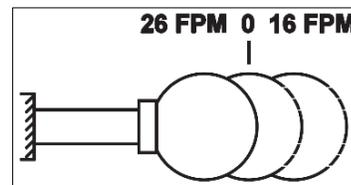

Figure 6
The gearbox has two feed speeds. These are set by pulling out or pushing in the *shift lever* (D). **Always change feed speed while the machine is running.** A diagram showing lever positions and associated feed speeds can be found above the gearbox cover. It is also shown in Figure 6.